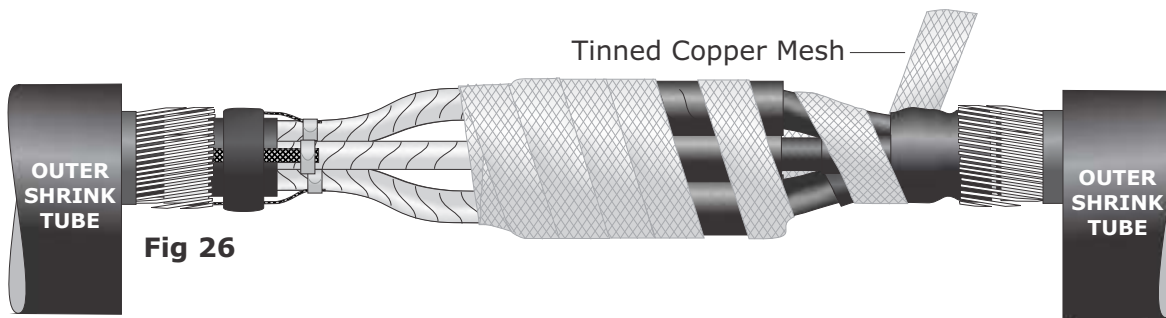

Fig 26
35. Using the tinned copper mesh, pull the cores together. Extend the mesh onto the semi-conductive tubes as shown in Fig 26.